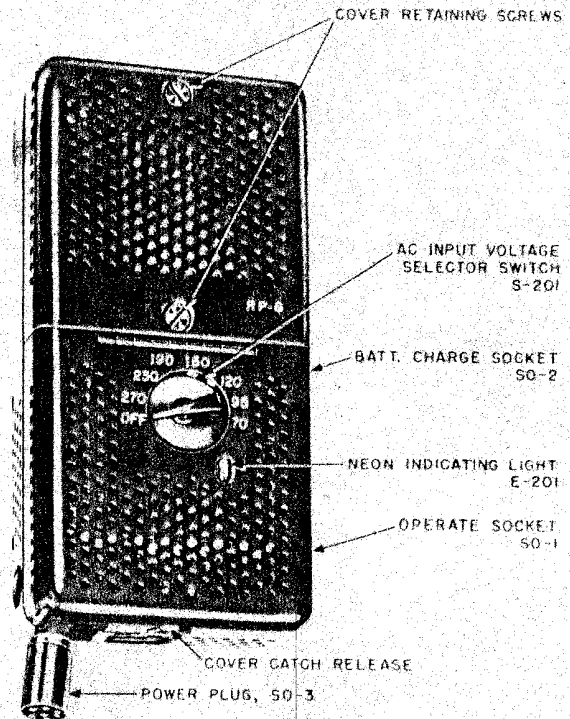

Figure 4. Power Supply RP-6 showing control switch and power plug.
a. Turn the input voltage selector switch on Power Supply RP-6 (Figure 4) to OFF.
Power Supply RP-6 (Figure 4) to OFF.
(1) Turn the input voltage selector switch on Power Supply RP-6 to OFF. (Figure 4)
(2) Disconnect Power Supply RP-6 power plug from the Filter-Accessory Unit, RA-6, if it is not already disconnected. This plug must be disconnected to avoid blowing the fuse.
(3) Insert the Jones plug marked BAT in the receptacle marked BATT-CHARGE.
(4) Connect the red battery lead to the positive 6-volt terminal of the storage battery.
(5) Connect the black battery lead to the negative terminal of the storage battery.